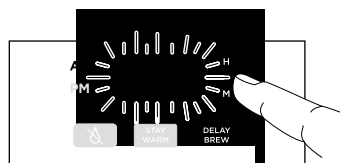

Fig. 19
- Press DELAY BREW. DELAY BREW will illuminate and the clock will begin to flash "12:00" or the last Delay Brew time that was set (**Fig. 19**).
- While the clock is flashing, press the hour (H) or minute (M) button to set the time that you would like the Delay Brew to begin. The AM or PM indicator will illuminate on the left side of the display as you are setting the desired time.